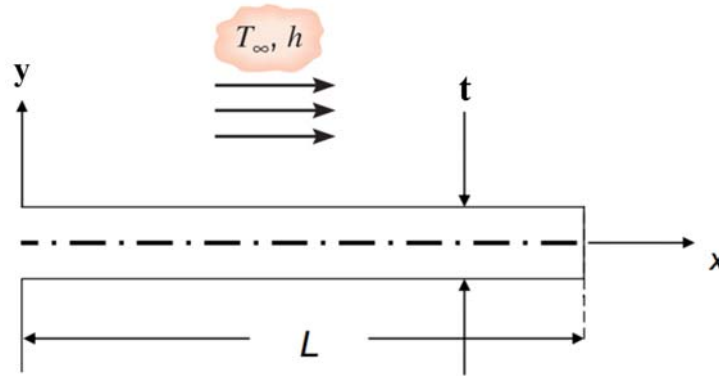
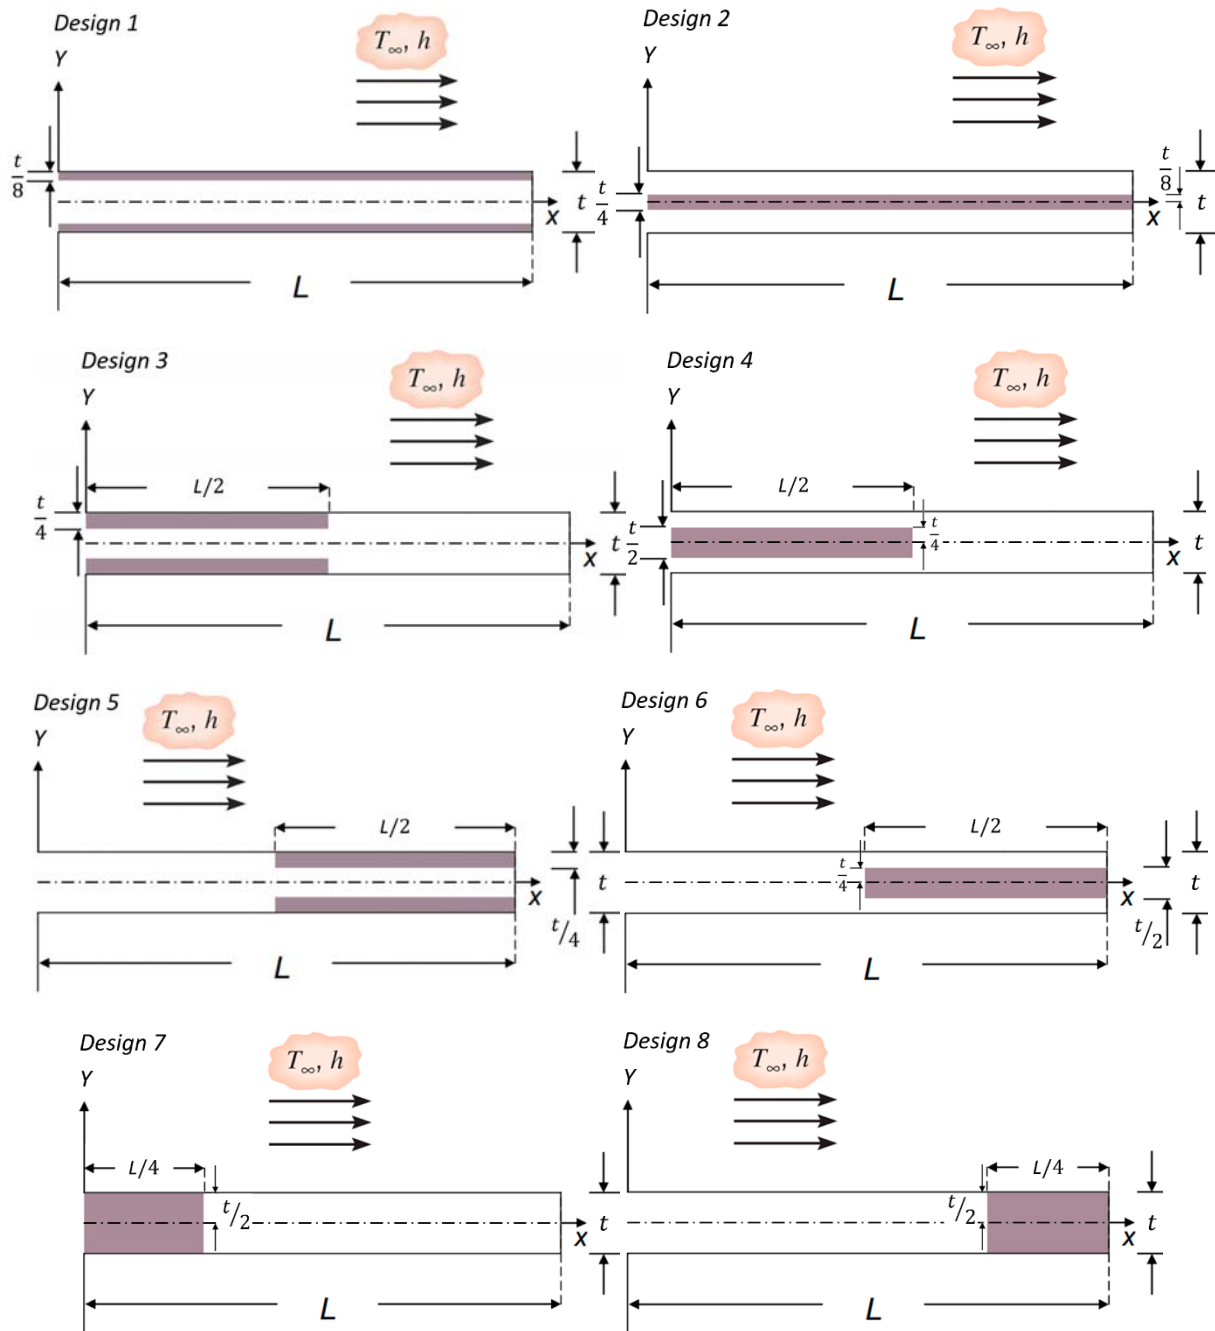
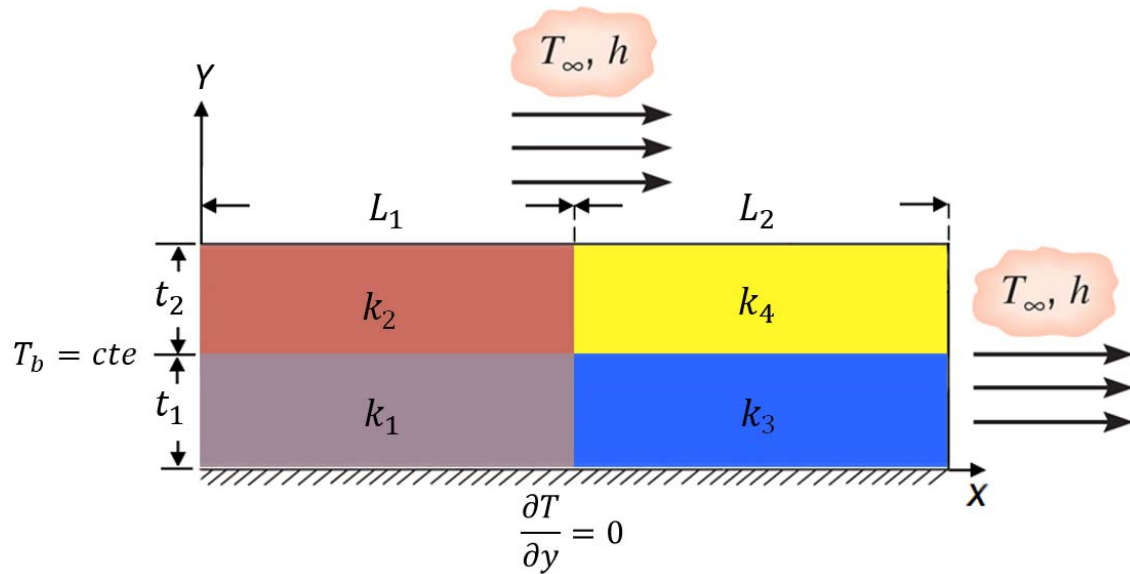
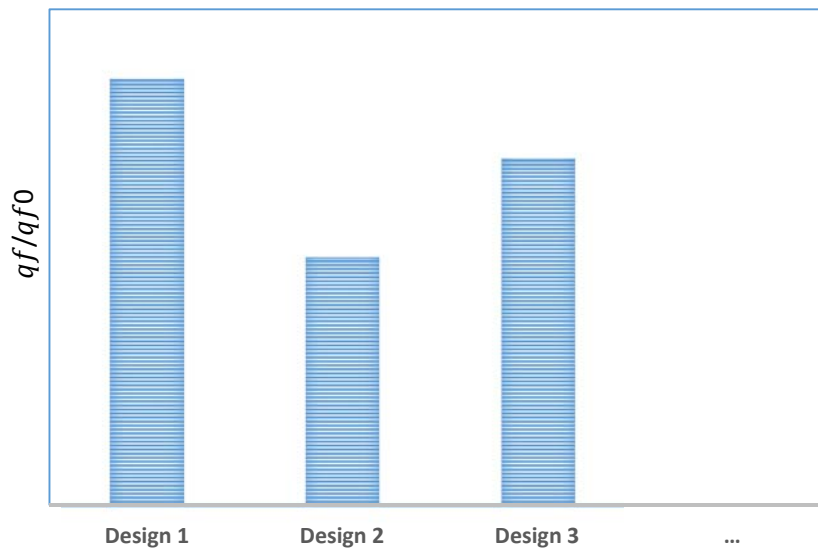

Figure 1 The rectangular fin (base design).
Figure 2 The design proposals.
Figure 3 The computational domain and boundary conditions.
Figure 6 The ratio of fin heat transfer to the base fin heat transfer for different designs.
Consider a 2D rectangular fin of Aluminum alloy ($k_a = 100 \text{ W/m.K}$) shown in **Figure 1** with $t = 10 \text{ mm}$ and $L = 100 \text{ mm}$ in a convective environment ($h = 200 \text{ W/m}^2.\text{K}$ and $T_\infty = 300 \text{ K}$) attached to a wall with $T_b = 350 \text{ K}$.
Due to structural design constraints, the geometry of the fin cannot be changed. It is intended to enhance the fin heat transfer rate, q_f , using a superconducting material, i.e. Carbon NanoFiber (CNF) ($k_{CNF} = 1000 \text{ W/m.K}$). An engineer suggests the designs shown in **Figure 2**. In all designs, the same amount of CNF, indicated with the gray color in the figure, is used, and all designs are symmetric with respect to the x axis, $t = 10 \text{ mm} = cte$, and $L = 100 \text{ mm} = cte$. You are going to investigate these designs by a detailed design procedure and find the best solution.
You can develop a single code for the detailed design of all above cases. The computational domain is shown in **Figure 3** which is composed of 4 different materials attached to each other. The contact thermal resistance is negligible. Note that all cases of **Figure 2** are symmetric with respect to the x axis and only the upper half of the fin geometries is solved using the symmetry boundary condition at $y = 0$ (see **Figure 3**) which reduces the computational cost. The other boundary conditions are convective boundary condition (h, T_∞) on the top and right boundaries and fixed temperature (T_b) at the left boundary ($x = 0$).
Your code should get $(L_1, L_2, t_1, t_2, h, T_\infty, T_b)$ as input physical parameters and $(N_{x_1}, N_{x_2}, N_{y_1}, N_{y_2})$ as input numerical parameters. The numerical parameters will be chosen such that $\Delta x = cte, \Delta y = cte$ (but $\Delta x \neq \Delta y$ in general). Also, note that $t_1 + t_2 = t/2$ and $L_1 + L_2 = L$. Then, you can solve all cases of **Figure 2** by setting the input parameters appropriately. For example, the settings for some designs are given in **Table 1**.
- b) **Validation:** It is necessary to prove that a numerical code has been implemented correctly. For this purpose, the solution of the code is compared with analytical or experimental results at least for special cases (simplified or “canonical” problems). To do this, note that the problem has a simple analytical solution for the base design (**Figure 1**) given in Table 3.4 of the reference text book [1]. Note that for this case, $Bi_y = \frac{h(t/2)}{k} = 0.01 \ll 0.1$ and the 1D assumption is valid. As a validation of your code, you have to solve this problem on a grid with $(N_x + 1)(N_y + 1) = 401 \times 21 = 8421$ nodes using your general code and by setting all input parameters correctly rather than by writing a simpler code for this case. The proper inputs of the code are given in **Table 2**.
- d) **Sample results:** Use your code to solve design 3 shown in **Figure 2**. Compare the temperature contours of design 3 and the base design (**Figure 1**) solved in part (b). What is the value of q_f/q_{f_0} for design 3? q_{f_0} is the heat transfer rate of the base design obtained in part (b).
- e) **Study objective:** Use your code to solve the other designs shown in **Figure 2**. Note that you can use the same grid resolution obtained in part (c) for design 3. Then, calculate q_f/q_{f_0} for all designs and report the results in the form of a bar chart. Your chart may look something like **Figure 6**. Based on your chart, what is the best design? Plot the temperature contour of the best design and compare with the one of the base design.